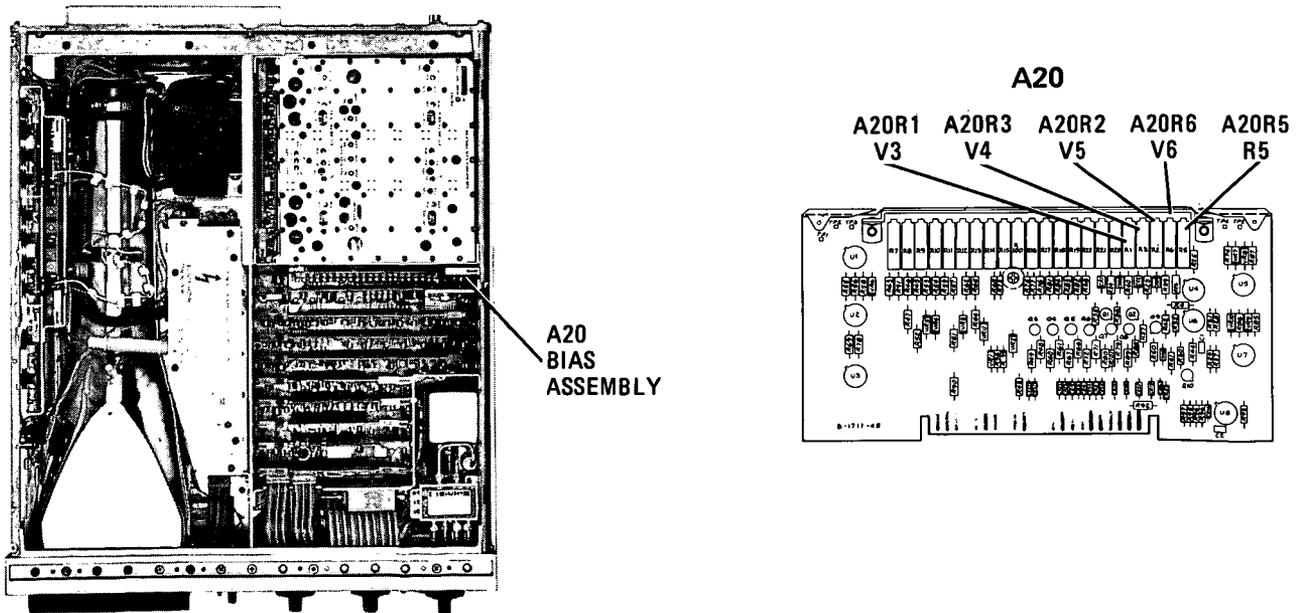

Figure 5-49. Preliminary Bias Adjustment Locations
- e. Adjust A20R3 V4 (Figure 5-49) over full range and note position for minimum ripple on CRT trace. Set A20R3 V4 for minimum ripple.